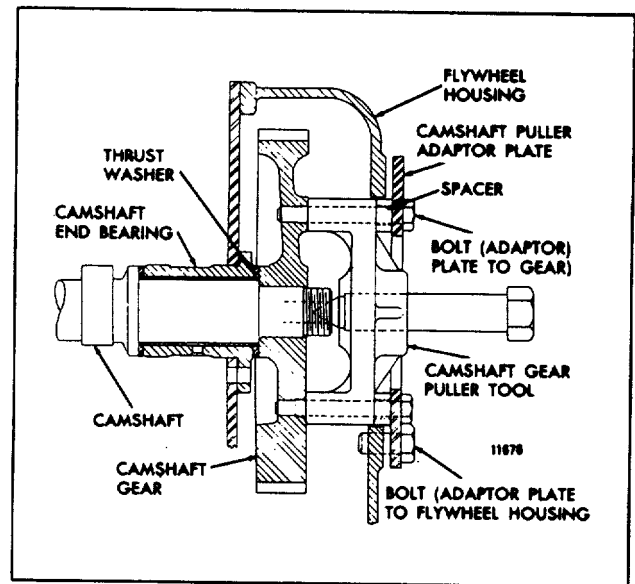

Fig. 6. Removing Camshaft With Camshaft Gear Puller J 1902-01 and Adaptor Plate Set J 6202
11. Install the camshaft gear puller J 1902-01, four spacers J 6202-2 and camshaft gear puller adaptor plate J 6202-1 on the camshaft gear (Figs. 6 and 7).